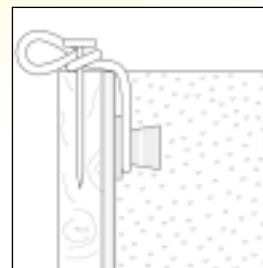

Fig. 1
2. Suspend the KALEN-FX tiles with anchoring studs; with upper tile edge clamped (fig. 1).